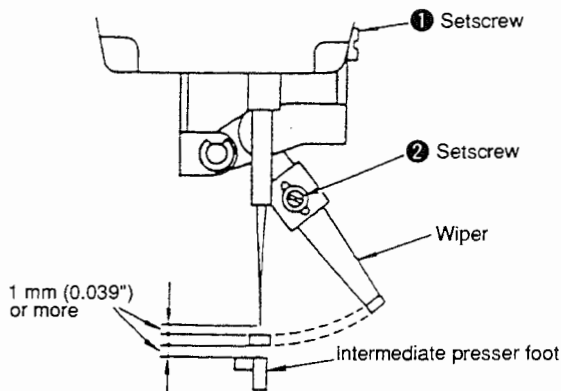

Fig. 5-9-1
1) With the sewing machine in a stop state with its needle up, confirm that the READY indicator lamp is ON, and set the thread threading switch to "ON" to lower the intermediate presser foot. (Fig. 5-9-1) The wiper passes the space between the intermediate presser foot and the material in the GL type of sewing machine. Adjust the position of the wiper with the intermediate presser foot held lifted. (Fig. 5-9-2)